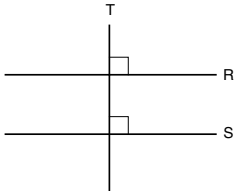

Figure 3-10. A transversal line perpendicular to one parallel line is perpendicular to the other parallel line. Lines R and S are parallel.
- **A line perpendicular to one of two parallel lines is perpendicular to the other line.** Thus, in Figure 3-10, Lines R and S are perpendicular to Line T.